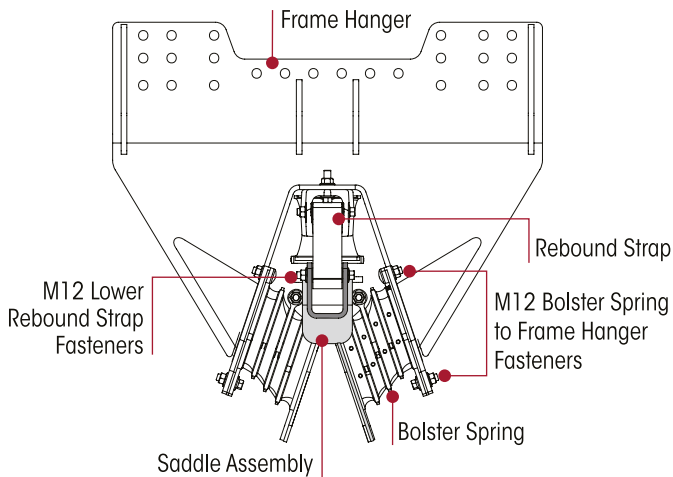

Figure 24: Hanger to Tie Bar Bolster Springs
3. Remove the M12 fasteners from the frame hanger to the tie-bar bolster springs, refer Figure 24.